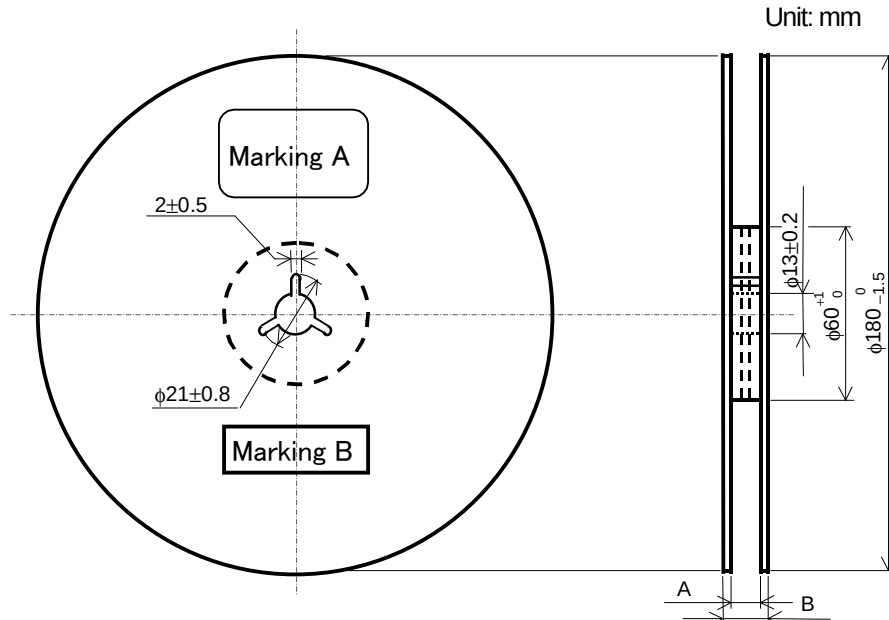

Figure-5
- 5). The peel strength of the top cover tape shall be within 0.1N to 0.5N on the test method as shown in the following FCCR10:Figure-5,FCCR16: Figure-6.
Reel dimensions shall be in accordance with the following Figure-5 and Table-6.